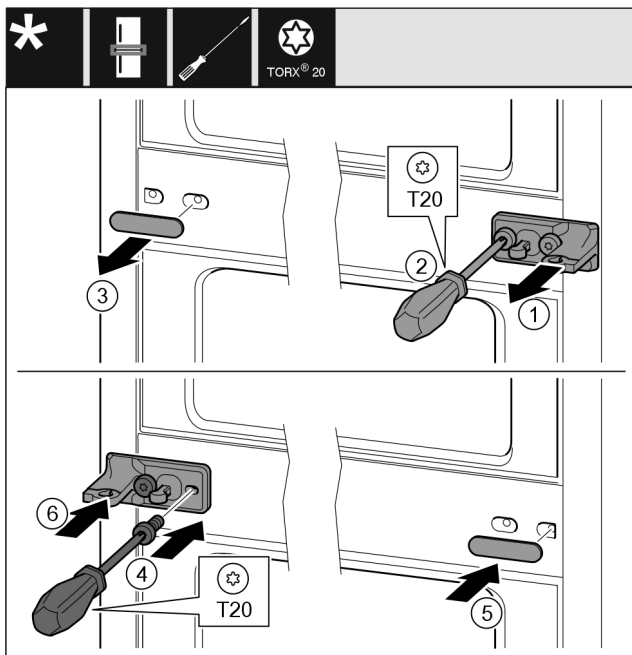

Fig. 13
- ▶ Remove the washer Fig. 13 (1).
- ▶ Unscrew screws Fig. 13 (2) with screwdriver.
- ▶ Remove the cover Fig. 13 (3) carefully.
- ▶ Turn the bearing block with film Fig. 13 (4) by 180° and screw it tight on the other side.
- ▶ Turn the cover Fig. 13 (5) by 180° and attach to the other side.
- ▶ Slide on the washer Fig. 13 (6) from the front.